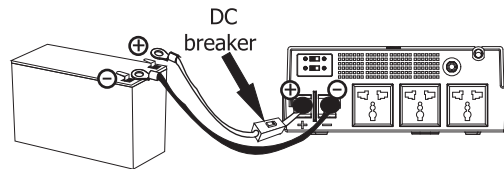

Fig. 2
Step 4- Install a DC Breaker in a positive battery line. The rating of the DC Breaker must be according to the inverter's battery current (75 Amp). Keep the DC breaker off. (see Fig. 2)
1) Single Battery Connection for 1200 VA Single Battery 12 Volt (Refer to Fig 2):